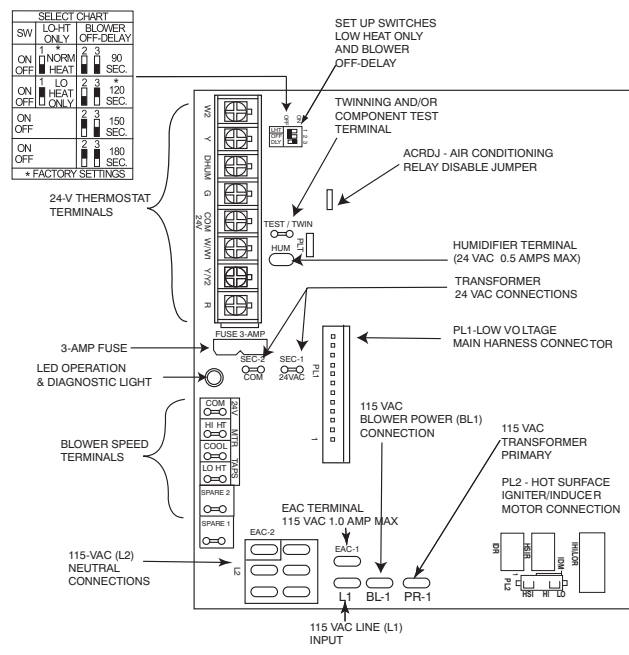

Fig. 22 – Example of Two-Stage Furnace Control
1. Turn Setup Switch SW1 (LHT or TT) on furnace control ON (see Fig. 22).
1. Verify SW1 (LHT or TT) on furnace control is turned “ON” (see Fig. 22).